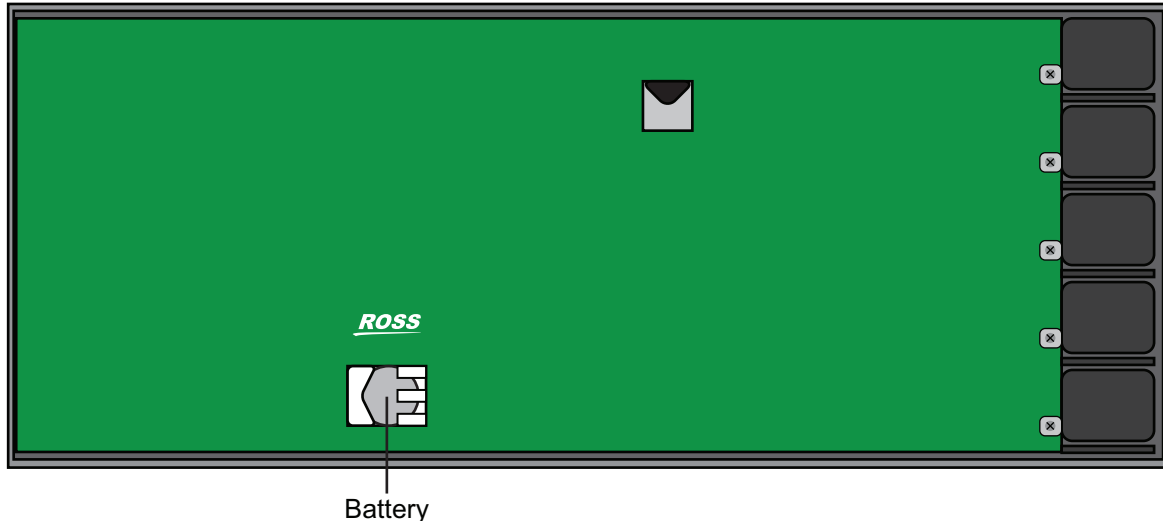

Figure 80 ULTRIX(-NS)-FR5 — Battery Location inside the Chassis
1. Locate and note the orientation of the failed battery on the Main Board. Refer to **Figure 80** for battery location.